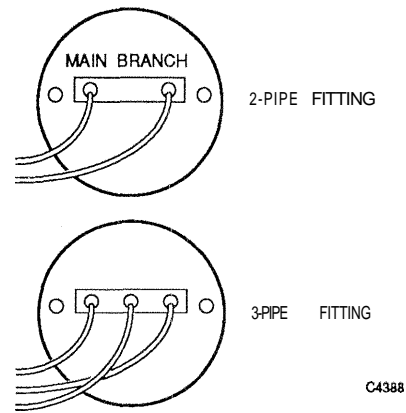

Fig. 8. Tubing Inserted in Banjo Fitting.
- Insert the tubing into the O-rings of the main and branch lines of the fittings (Fig. 8).